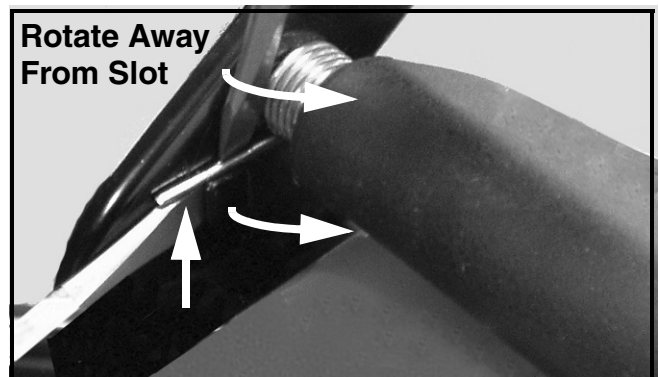

FIGURE 6
16. Refer to Figure 6. Using two thin flat blade screw drivers, unhook the right side rear door torsion spring leg from the handle bracket slot.